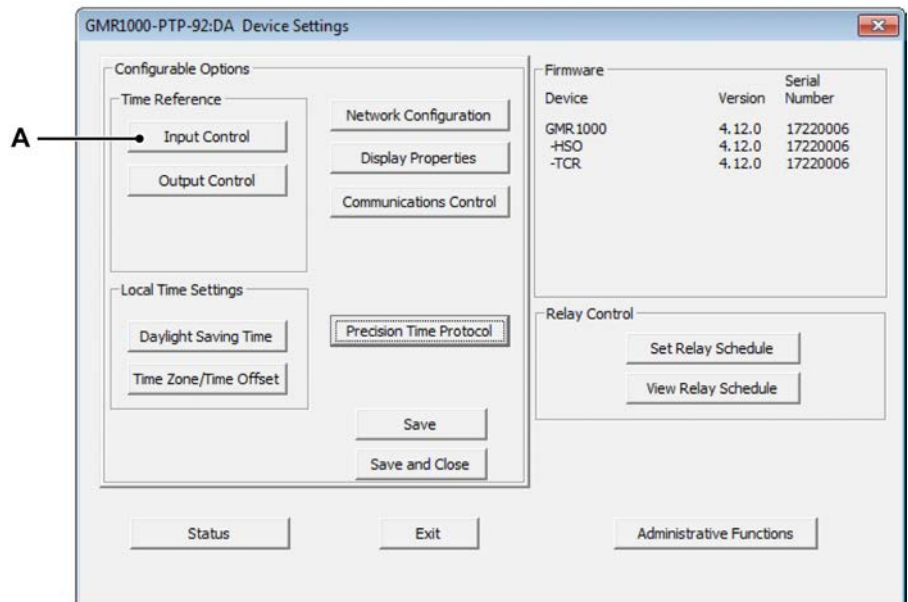

Figure D.20: GMR1000 PTP Device settings
- 2 Expand the tree in the **Device Configuration Utility** until the specific device is found, which is part of the GMR1000 Master reference -> GMR1000 PTP Server family. Once found, click on the device, this will open the device settings window (see Figure D.20).